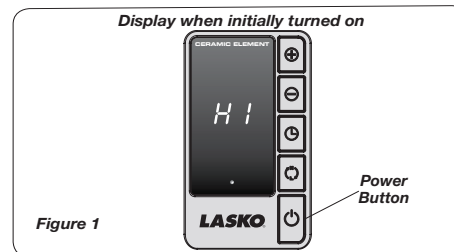

Figure 1
- Upon turning the Heater on, the unit will be in HIGH heat (1500 Watts) (Figure 1).